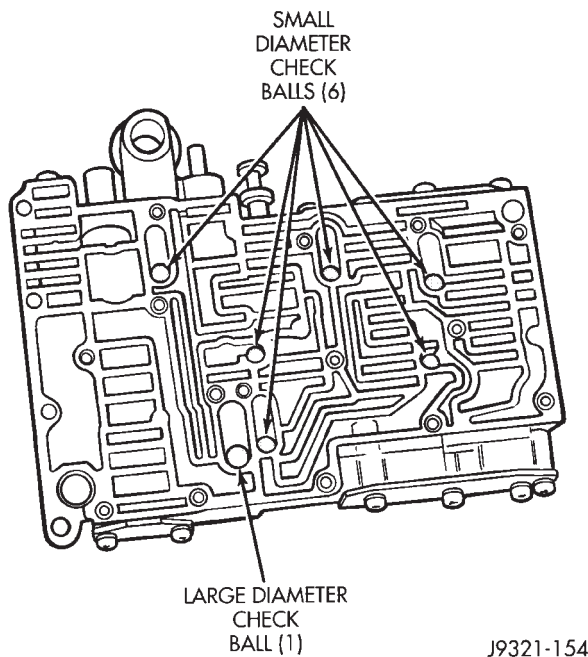

Fig. 111 Valve Body Check Ball Locations—46RH
(1) Note location of check balls in valve body upper housing (Fig. 111). Then remove one large and six smaller diameter check balls with magnet (total of 7 check balls are used).
(1) Position upper housing so internal passages and check ball seats are facing upward. Then install check balls in housing (Fig. 111). Seven check balls are used. The single large check ball is approximately 8.7 mm (11/32 in.) diameter. The remaining 6 check balls are approximately 6.3 mm (1/4 in.) in diameter.